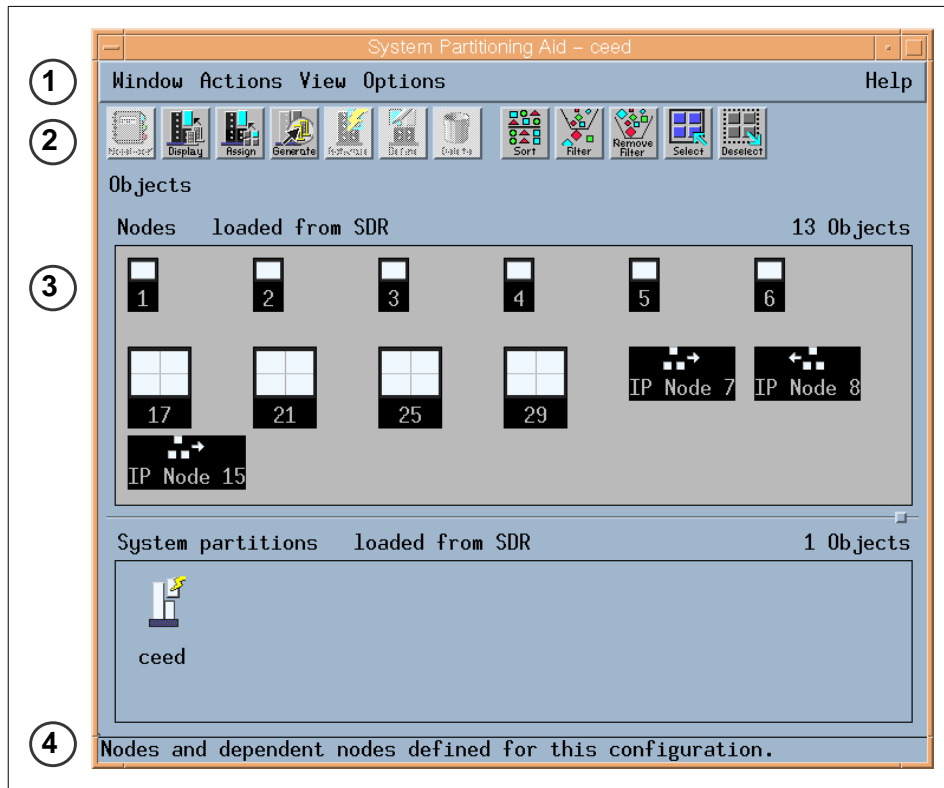

Figure 23. System Partition Aid Perspectives
The System Partition Aid Perspectives window in Figure 23 on page 57 has two panes, the Nodes pane and the System partitions pane. The Nodes pane (3) in this figure shows the Icon view. Notice that the IP Nodes are displayed after all the standard RS/6000 SP nodes.